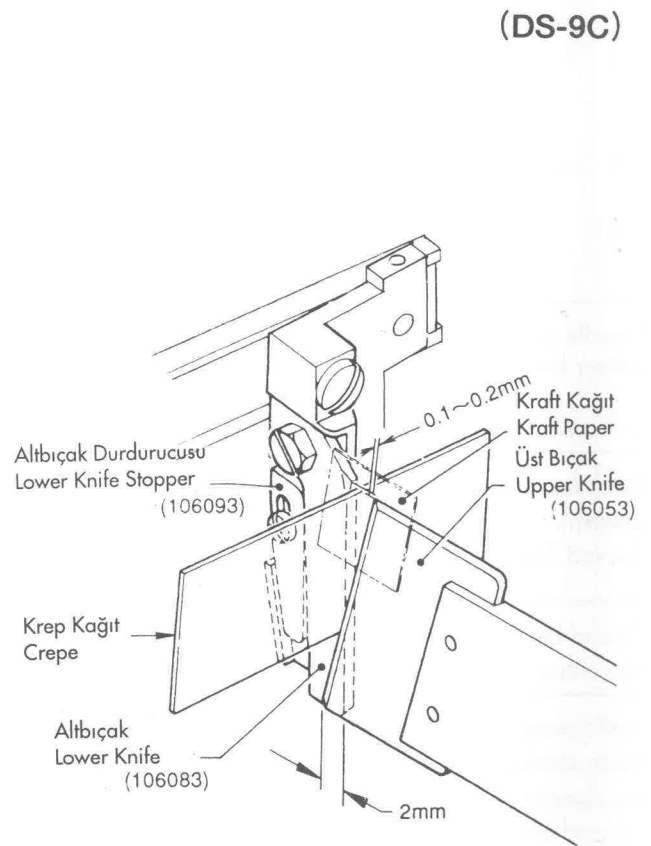

Fig. 14
NOTE : The gap adjustment can be easily made by placing a sheet of kraft paper between the upper and lower blades, as shown in (Fig. 14).
d) Adjust the overlapped depth of the upper and lower blades by hanging the length of air cylinder rod end so that the distance between the upper face of the lower blade and the rear side of the upper blade becomes 2 mm, as shown in (Fig. 14).